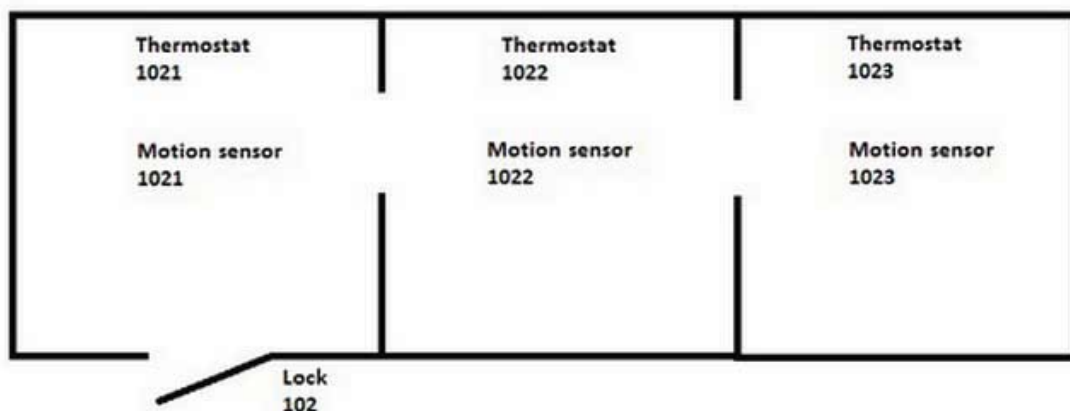
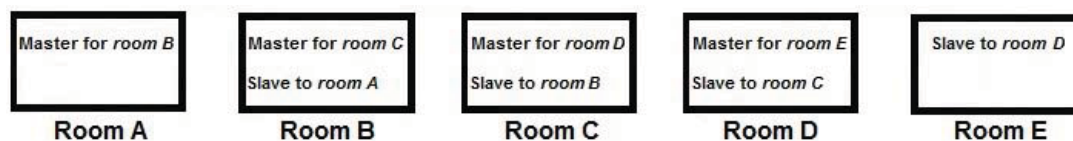

Figure C21
Figure C23
One possible suite configuration is to have only one door to the entire suite. In the example shown in Figure C21, the suite contains the rooms 1021, 1022 and 1023; each room has one thermostat and one motion sensor. Room 1021 is the *master room* for room 1022 and room 1022 is the *master room* for room 1023. The lock 102 is connected to the thermostat in the first room, i.e. to *thermostat 1021*, when the online network is set up. **Note:** For more information about the suite functionality, see section More about how the suite works.
In the configuration with only one door to the entire suite, the thermostats are initialized in a chain. The principle is described in Figure C23; *room A* in the room chain is master for *room B*, which is in turn master for *room C* etc. This and this section describe the example from Figure C21, i.e. three rooms in a chain.
3. All thermostats except for the last one in the chain (see Figure C23 for a description of the principle) have been initialized with suite settings according to this section.